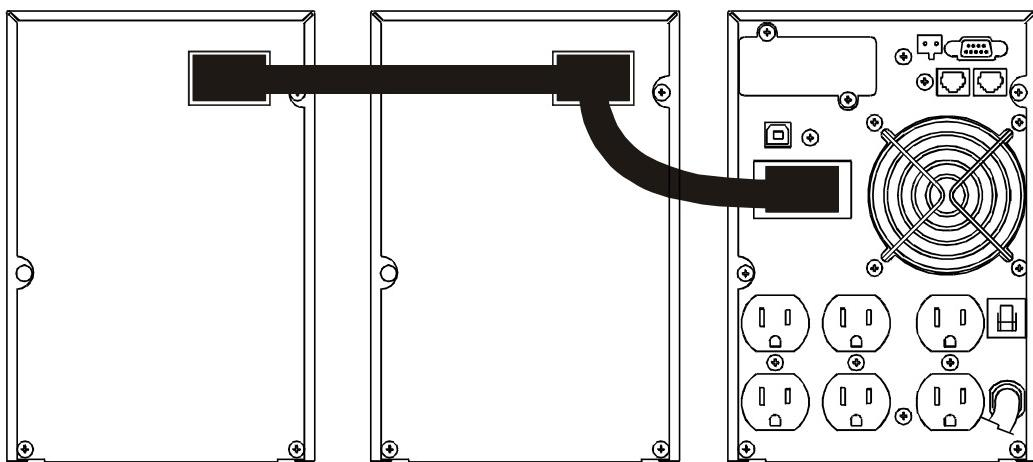

Figure 2.2
- 3 Connect the cable from the battery pack to the unit (Figure 2.2). If used, connect the second battery pack to the first pack.